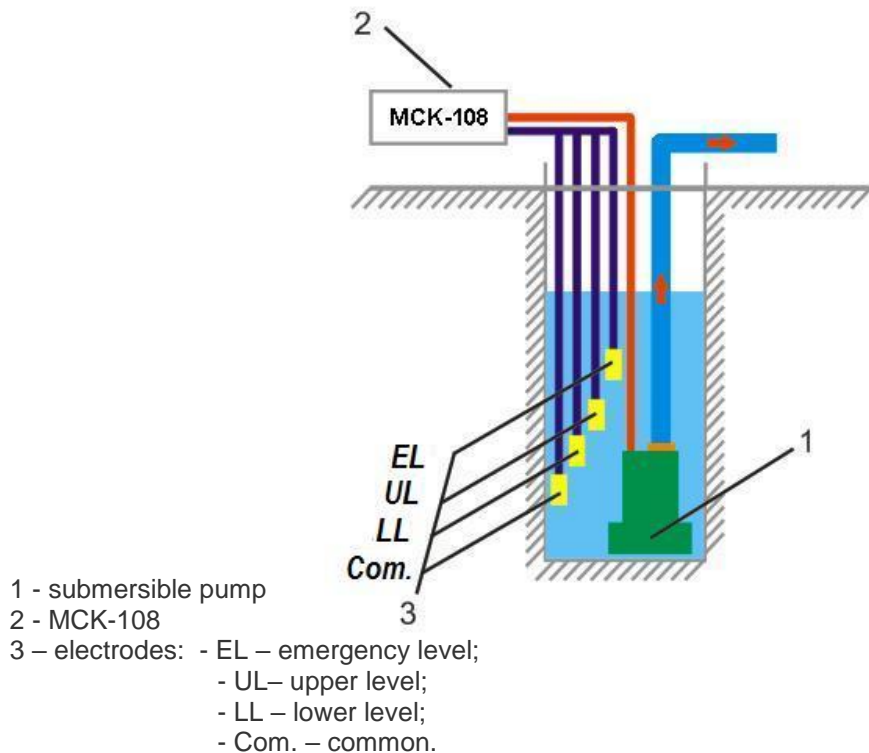

Figure 2.5 – Application of MCK-108 in the drainage mode with conduction-measuring sensors (level sensors)
- drainage with level sensors (Figure 2.5).